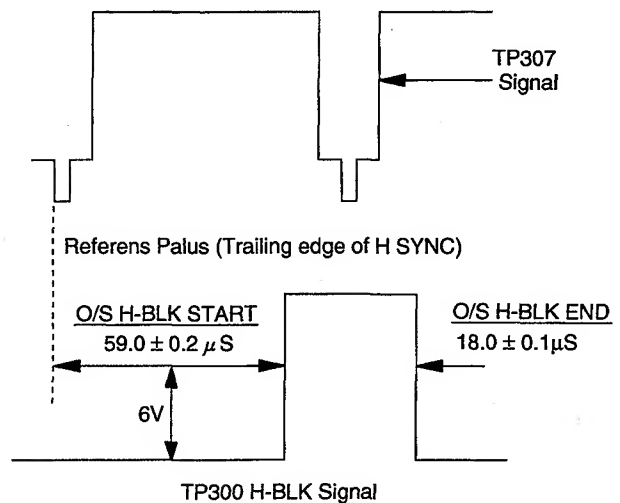

Fig.5-4
5. Observe the anode of TP307 and TP300 or D516 with an oscilloscope, and adjust **O/S H-BLK START** and **O/S H-BLK END** so that the waveform will be as shown in Fig.5-4.